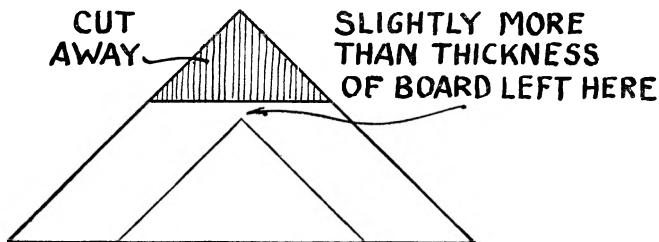

Fig. 24
26. The corners are always attached first. If the back were attached first it would be loosened by the continued opening and shutting of the covers while the corners were being fixed. Cut away the point of the right-angle of each corner-piece at an angle of 45 degrees leaving *slightly more* than the thickness of the board projecting beyond the marked position of the corner of the board as shown in fig. 24.